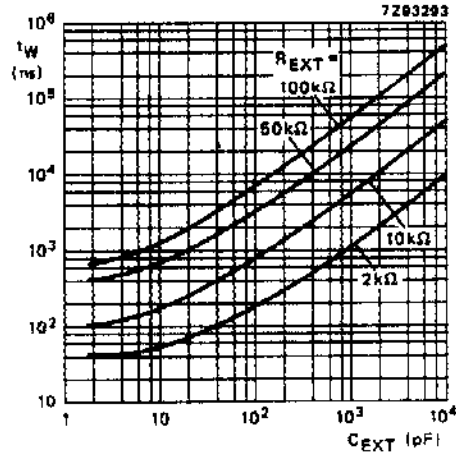

Fig.9 Typical output pulse width as a function of the external capacitor values at  $V_{CC} = 5.0$  V and  $T_{amb} = 25$  °C.
| $R_{EXT}$         | external timing resistor                                      | 102                      |                | 10001000    | –               |                 | –               |                 | $\text{k}\Omega$ | 2.05.0        | Fig.9  |
| $C_{EXT}$         | external timing capacitor                                     | no limits                    |                |                 |                 |                 |                 |                 | $\text{pF}$      | 5.0               | Fig.9; note 3  |
| $R_{EXT}$         | external timing resistor                               | 2              |      | 1000 | –          |      | –           |      | k $\Omega$ | 5.0             | Fig.9   |               |
| $C_{EXT}$         | external timing capacitor                              | no limits      |      |      |            |      |             |      |            | pF              | 5.0   | Fig.9; note 3 |
- For other  $R_{EXT}$  and  $C_{EXT}$  combinations see Fig.9.